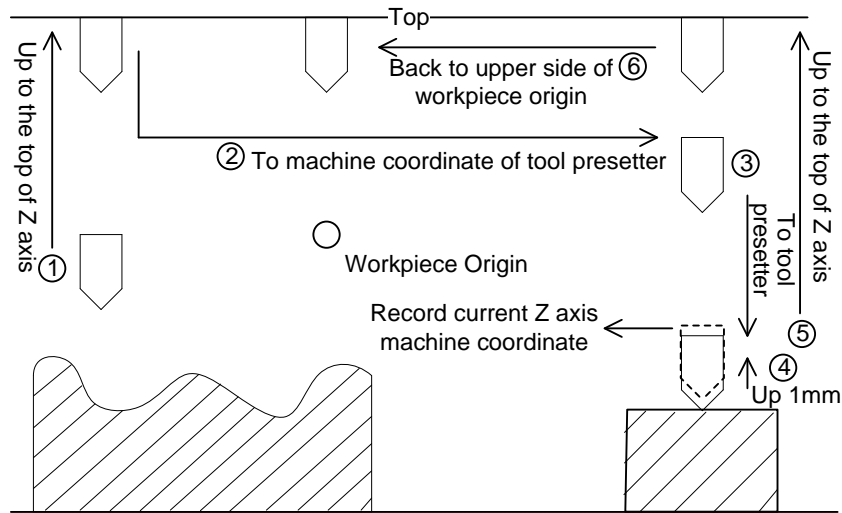

Fig. 3-20 First calibration
- Secondly, press F5 [Preset], and then press F1 [First Time] to execute the first calibration in the new pop-up manipulation button bar, and the system will record the current machine coordinate value of Z axis automatically, as shown in Fig. 3-20. The system ends this process automatically.